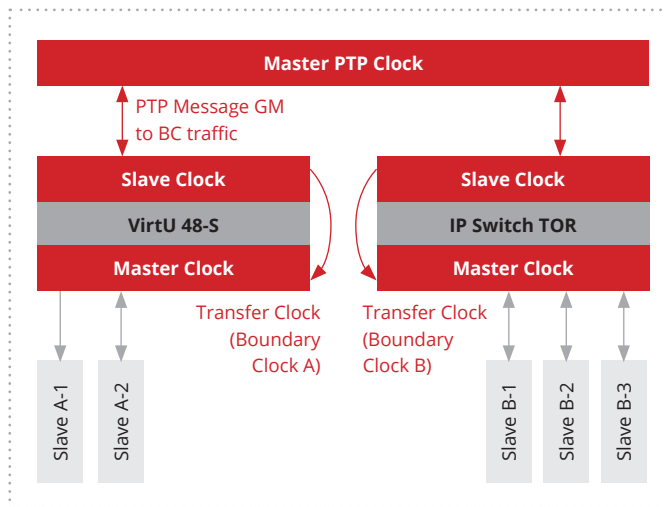

Figure 5. Boundary Clock in Detail
In Figure 5., the PTP Grandmaster only sees two (2) slave clocks. Adding a slave clock to group A or group B will not impact the Grandmaster. These groups can grow or change as required.